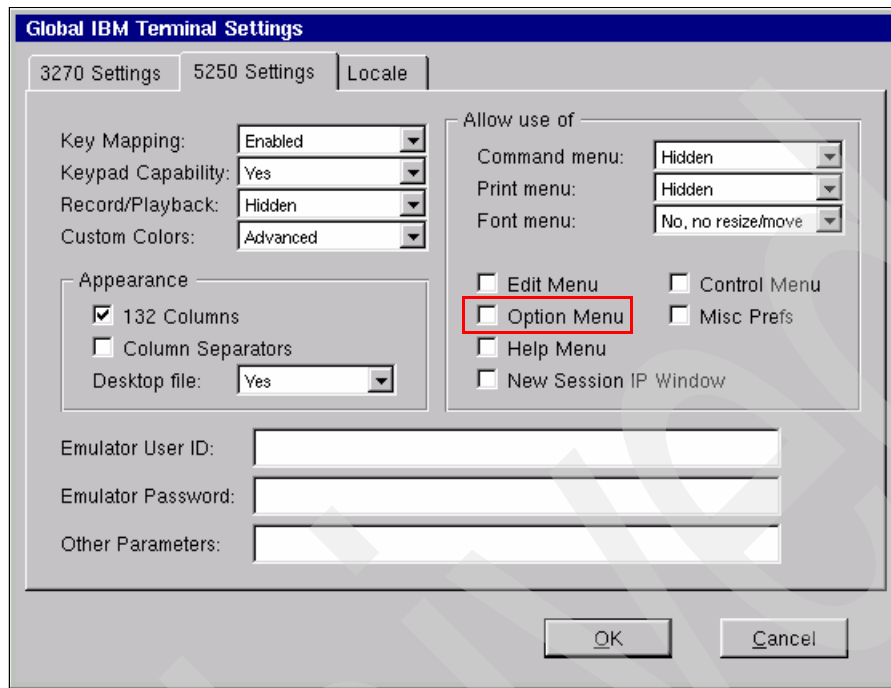

Figure 4-41 5250 settings
- At this point, you still have the Option menu in the top left corner of the 5250 session. Switch back to the Neoware Connection Manager to take the Option menu out of the 5250 session (Figure 4-41).